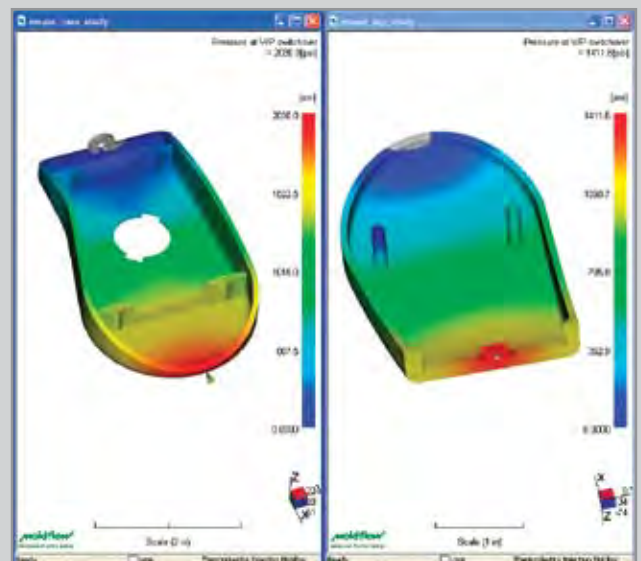

Figure 3: Example of a single captured image showing results from two studies in windows that have been tiled vertically.
- 4 Select **Edit > Image Capture Option > Graphics Display Area** to capture all windows displayed (see Figure 3).